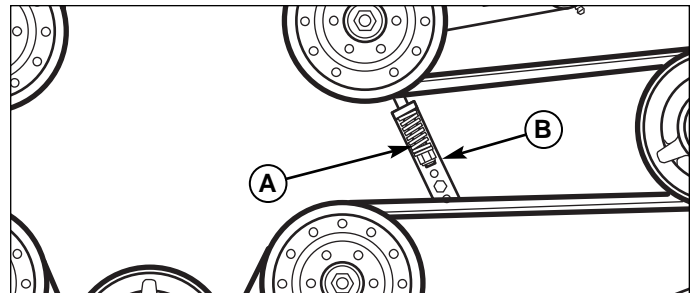

Figure 49. Mower PTO Belt
4. Loosen the spring compression nut (B, Figure 49) to release the belt tension.
7. Install the drive belt on the gearbox pulley, the spindle pulleys and idler pulleys. Tighten the spring compression nut (B, Figure 49) until the belt tension spring (A, Figure 49) is compressed to 1-5/8" (4,12cm) long.